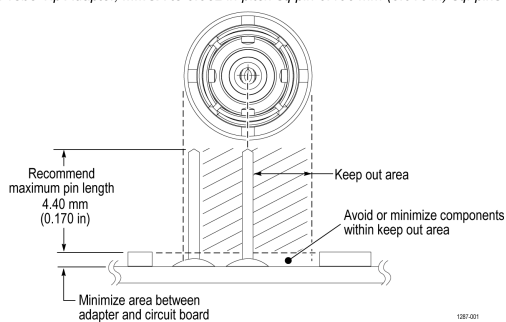

Figure 21: Adapter clearance requirements
The solder pins can be installed around a surface mounted component on the circuit board, but adequate clearance should be maintained for a good electrical connection for the adapter. Figure 21 on page 43
3. If necessary apply a small amount of adhesive to further strengthen the connection to the circuit board. However, keep the height of the adhesive to a minimum to provide good electrical contact for the adapter. Figure 21 on page 43